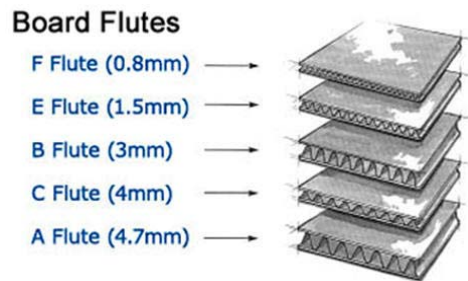

Figure 1. Standard Cardboard Shapes or Flute Profiles
1. Beam must be constructed using standard corrugated cardboard panels. The cardboard can be cut and glued together to develop any section required by the design team. Table 1 lists the dimensions of standard U.S. corrugated cardboards that can be used for this project. Figure 1 shows the five standard shapes and flute profiles.